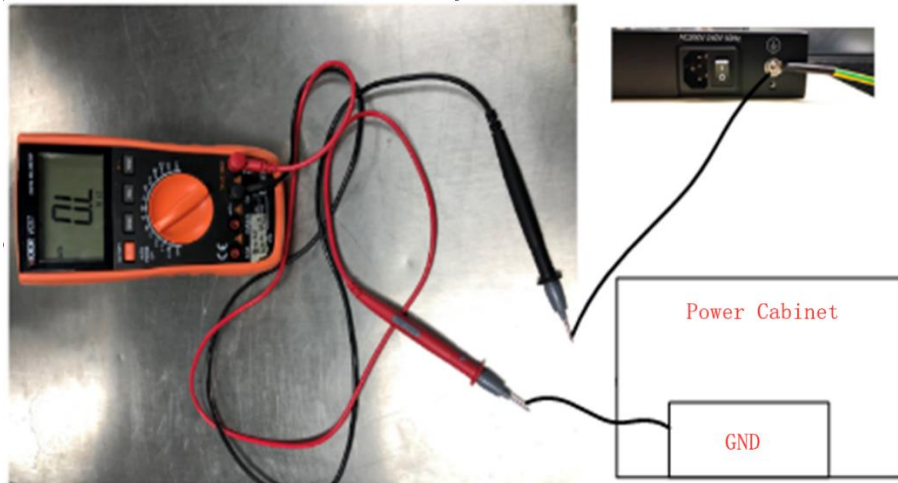

Figure 3-34 Equipment grounding test diagram
- 1) Use the resistance range of the meter, connect one lead to the shell screw of the device, and connect one lead to the ground wire of the power socket, as shown in Figure 3-34